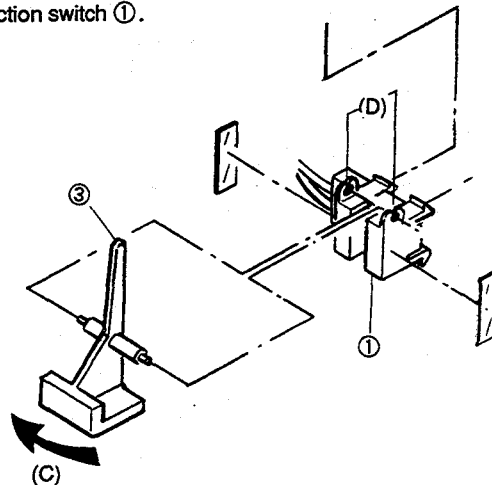

Fig. 8-28
- Turn actuator ③ in direction of arrow (C) as shown in Fig. 8-28 and remove actuator ③ from actuator mounting port of paper exit detection switch ①.